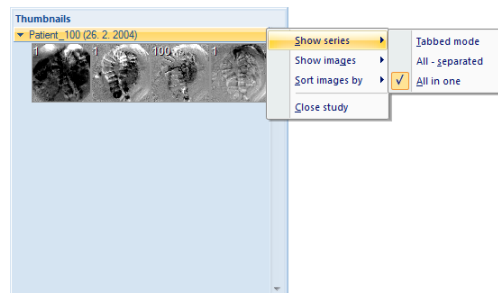

Figure 29 – Displaying series in All – in one mode
- **All - in one**; the reduced thumbnails of all series of the study are displayed at one time, one after another without division into series (see Figure 29).